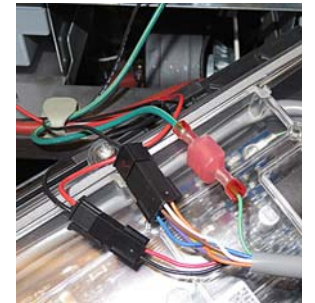

Figure 9
9. Disconnect the other cables from the connectors on the back of the controller marking their position for reassembly (see Figure 9).